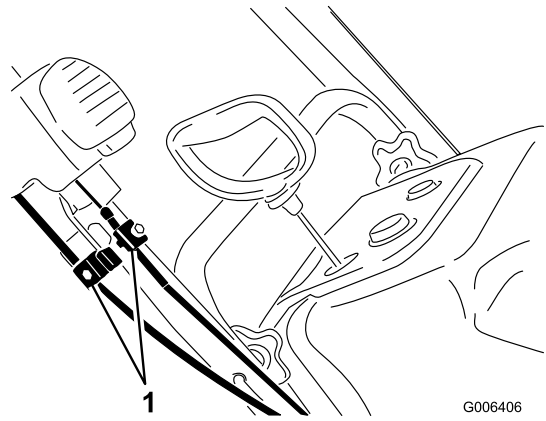

Figure 32
1. Loosen the 2 Quick Shoot control-cable clamps (Figure 32).